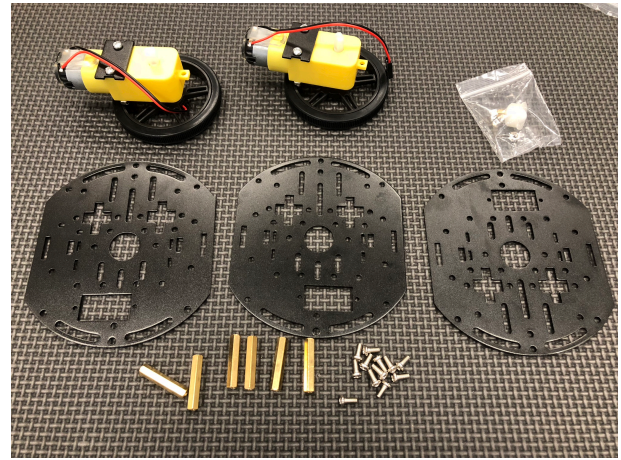

Figure 3. Wheels assembled and remaining parts.
2. Connect the motors to the **wheels** using the small pointed screws (Figure 3).